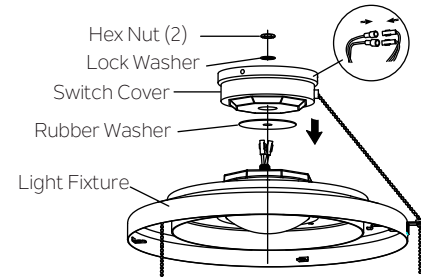

Fig. 22
Step 2. Feed the electrical wires from the light fixture through the holes in the middle of the rubber washer and switch cover (starting with one by one). Threaded the light fixture onto the switch cover and make sure the pull chain hole on the switch cover is nearest to the one of light fixture and pass it into the hole. Add the lock washer and hex nut (2) onto the inside of the switch cover and tighten securely. (Fig. 22)
Step 3. Connect the BLACK wire connectors from the light fixture and switch cover by pushing them together. Follow the same procedure with the WHITE wire connectors. (Fig. 22)